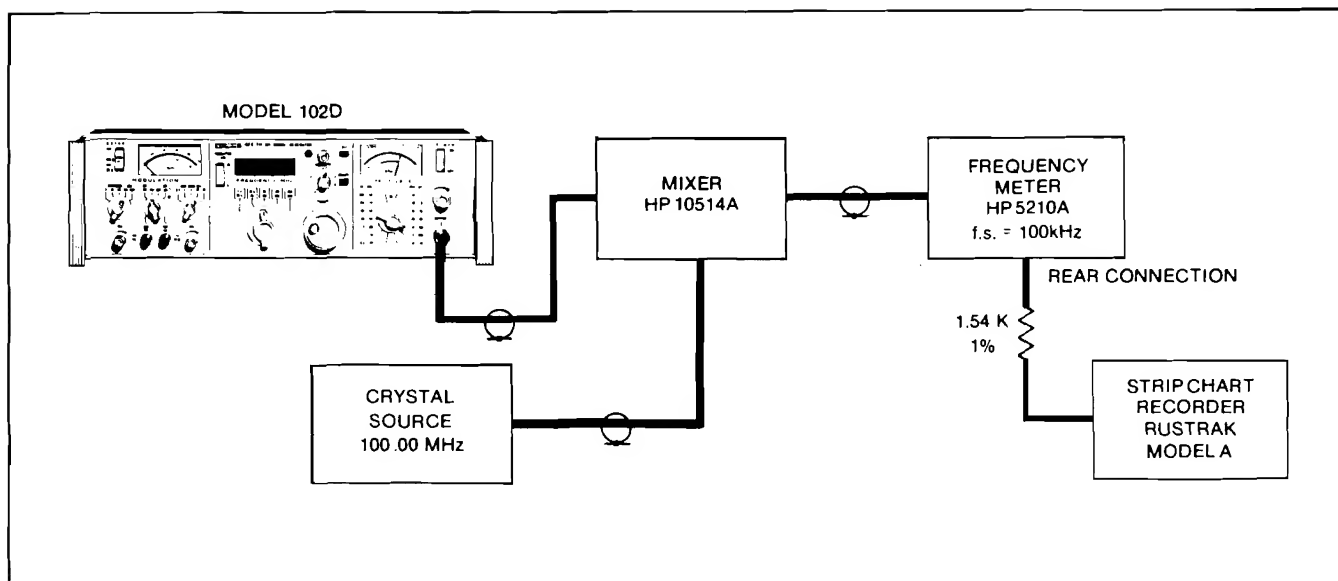

Figure 2-25 Frequency Stability Check, Test Setup
a. Connect the Model 102D and test equipment as shown in Figure 2-25.